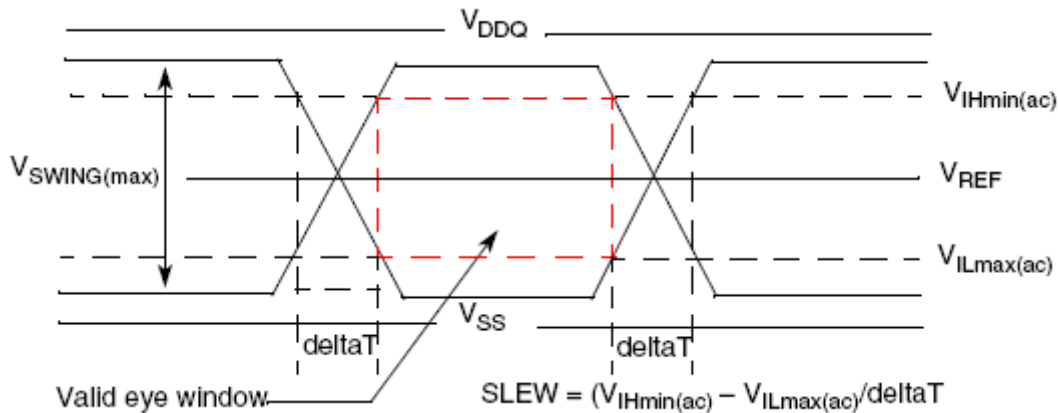

Figure 3. SSTL signal waveform eye diagram
- Optimize termination values. During board simulation, verify that all aspects of the signal eye (see Figure 3) are satisfied, which includes the following (at a minimum):